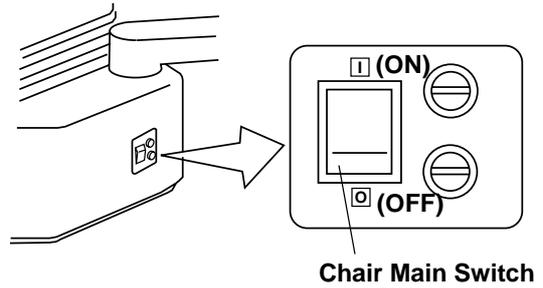

Fig.3-1 Chair Main Switch
(1) Chair Main Switch (**Fig.3-1**)